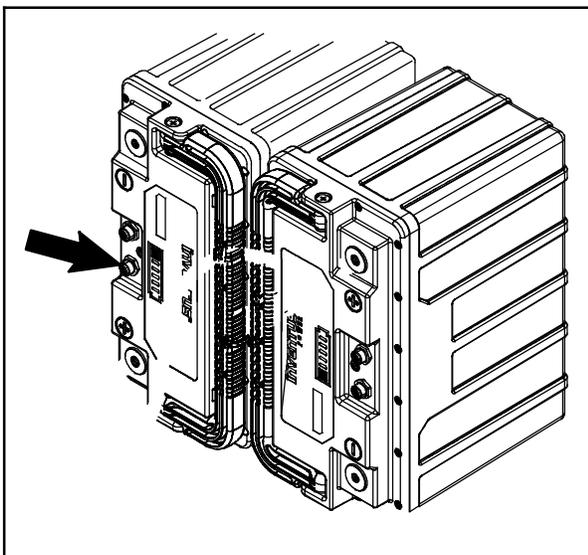

FIG. 14
- Disconnect the UI to BMS electrical harness from the lithium battery communication terminal. (Fig. 14)